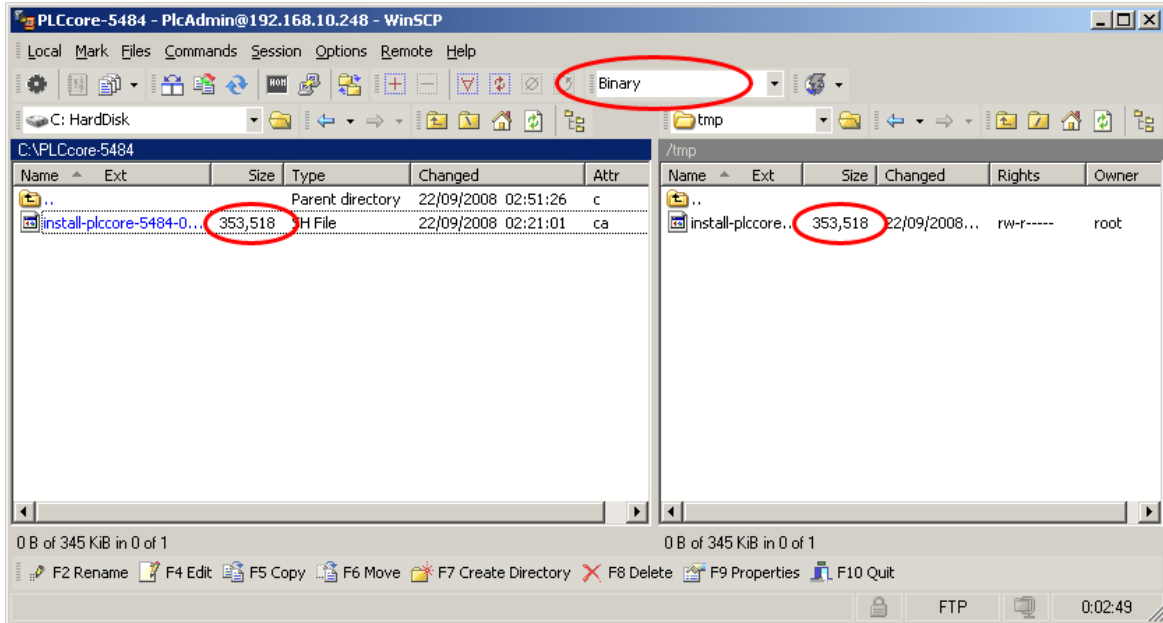

Figure 24: File transfer in FTP client "WinSCP"
see section 7.8.2), the respective firmware archive can be transferred into directory `/tmp` of the PLCcore-5484 (see Figure 24).
**Important:** To transfer the firmware archive via FTP, transfer type `"Binary"` must be chosen. If FTP client `"WinSCP"` is used, the appropriate transfer mode is to be chosen from the menu bar. After downloading the firmware archive, it must be checked if the file transferred to the PLCcore-5484 has the exact same size as the original file on the computer (compare Figure 24). Any differences in that would indicate a mistaken transfer mode (e.g. `"Text"`). In that case the transfer must be repeated using transfer type `"Binary"`.